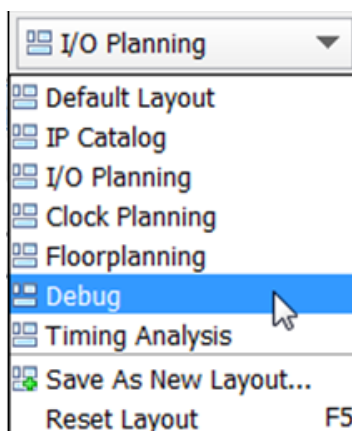

Figure 29: Debug Option
5. In the main Vivado toolbar, select **Debug**, (Figure 29).